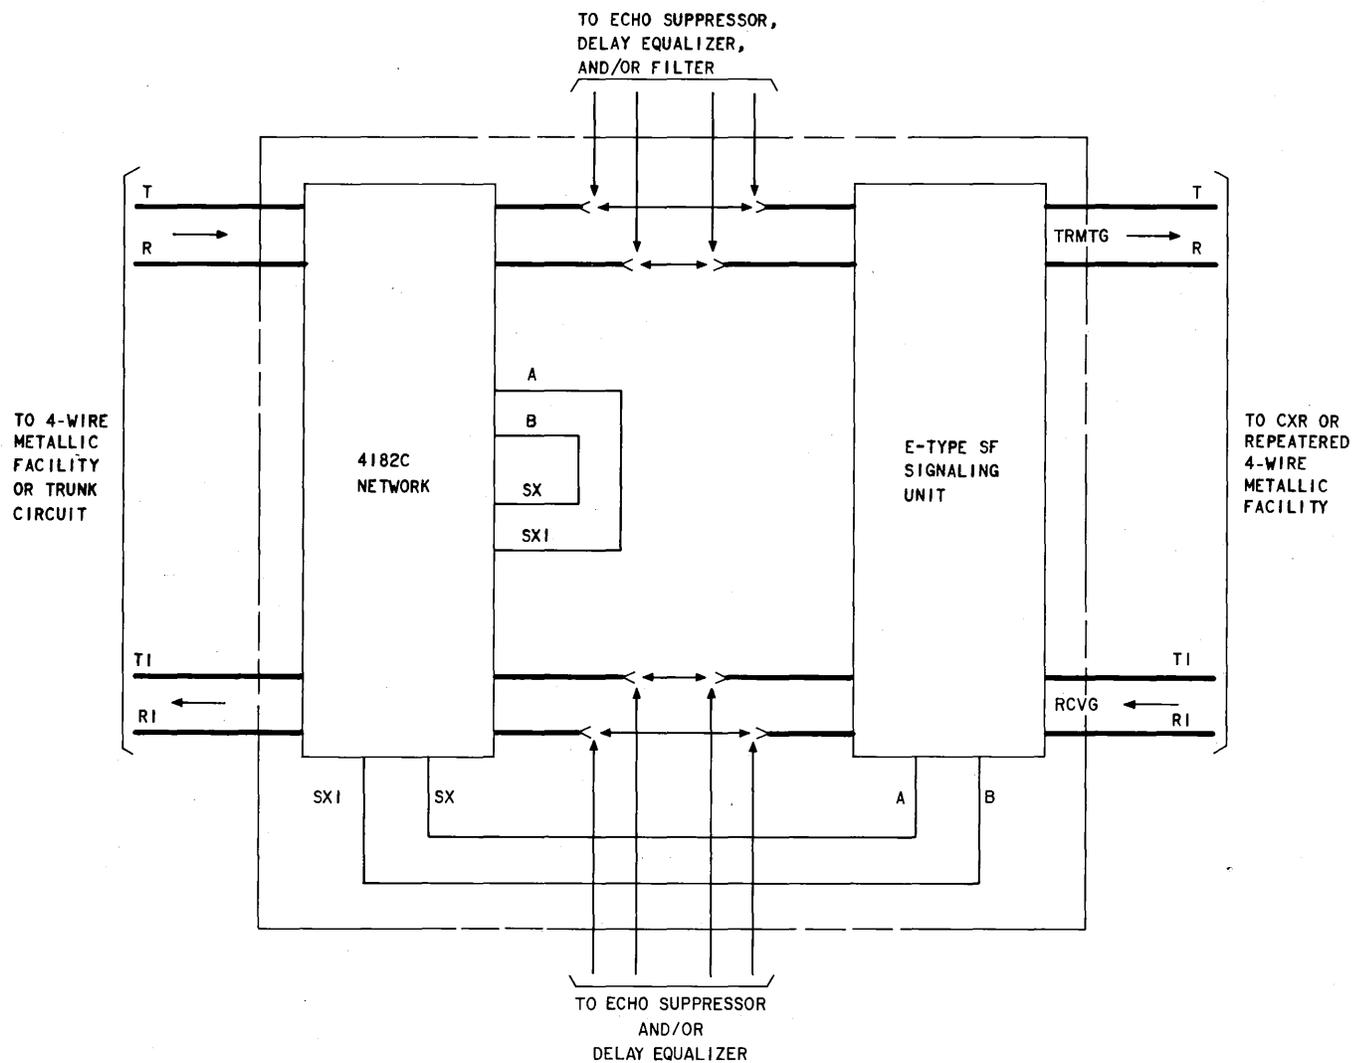
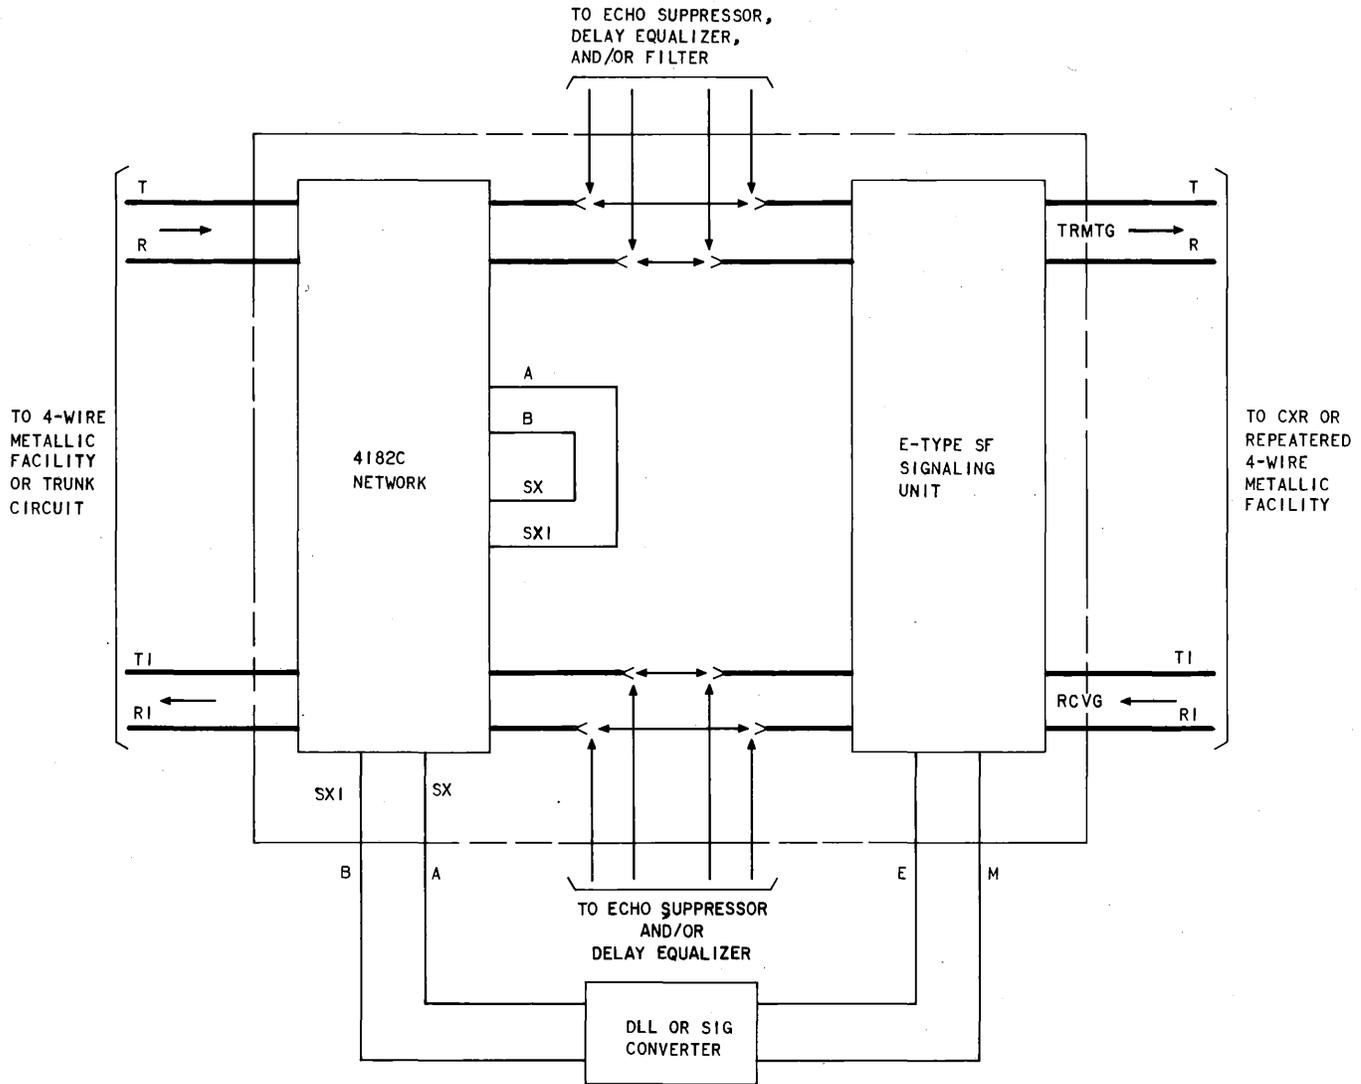

Fig. 10—4182C Network Used in VF Terminal Equipment Bay—No Signal Conversion Required
Fig. 11—4182C Network Used in VF Terminal Equipment Bay—Signal Conversion Required
5.01 Optional wiring of the shelf mounting in the VF Terminal Equipment bay (J98617J) provides the additional transmission path on the extension side of the network by using the precision balance network leads (NT, NR) of the 1-type terminating set socket. Figure 10 illustrates the application of the network in the bay when no signal conversion is required. Figure 11 shows the application of the network when signal conversion is required.